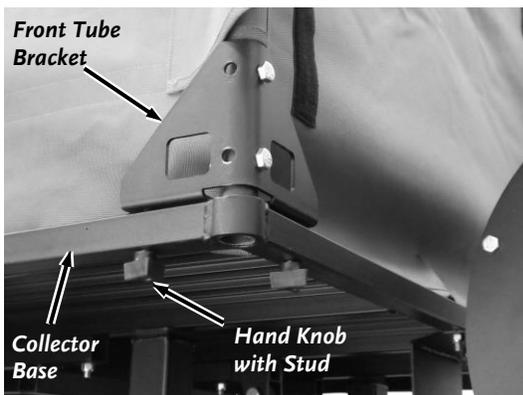

Figure 78
6. Remove the six Knob Bolts from under the Collector Base corners (**Figure 78**).